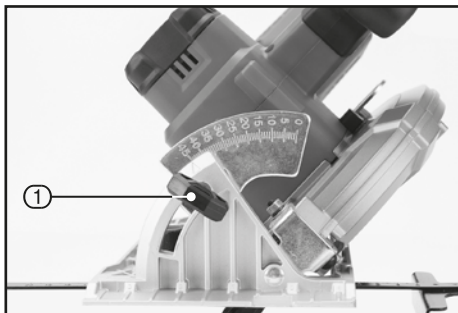

FIG.10
9.4 CUTTING ANGLE ADJUSTMENT – FIG.10